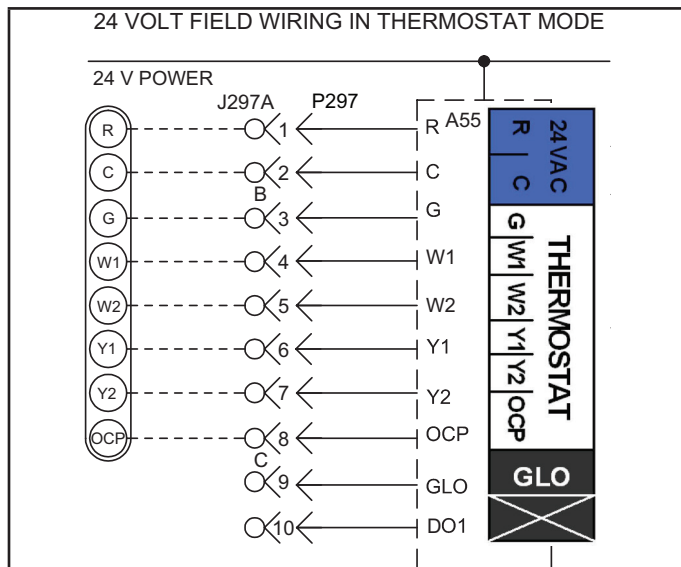
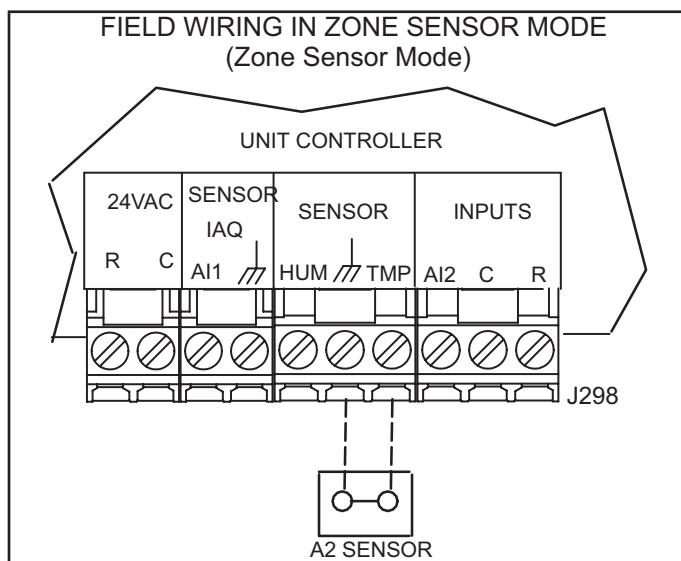
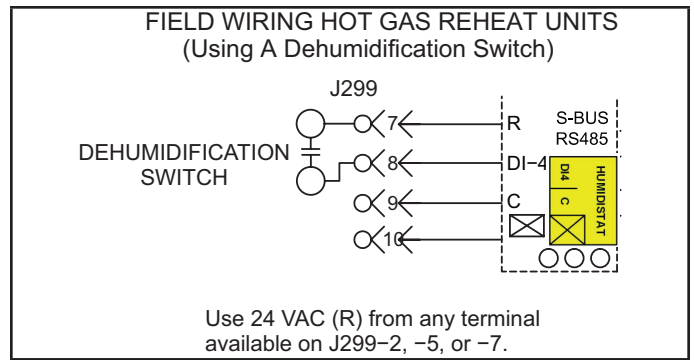

FIGURE 15
FIGURE 16
FIGURE 17
- 4 - Wire as shown in FIGURE 15 for electro-mechanical and electronic thermostats. If using other temperature control devices or energy management systems see instructions and wiring diagram provided by manufacturer.
The Unit Controller will operate heating and cooling based on the Unit Controller internal setpoints and the temperature from the A2 room sensor. An optional Network Control Panel (NCP) can also be used to provide setpoints. A thermostat or return air sensor can be used as a back-up mode. Make room sensor wiring connections as shown in FIGURE 16.
- 2 - Make wiring connections as shown in FIGURE 15 for Thermostat Mode or FIGURE 16 for Zone Sensor Mode. In addition, connect either a humidity sensor or a dehumidification input. See FIGURE 18 or FIGURE 19 for humidity sensor wiring or FIGURE 17 for dehumidification input wiring.